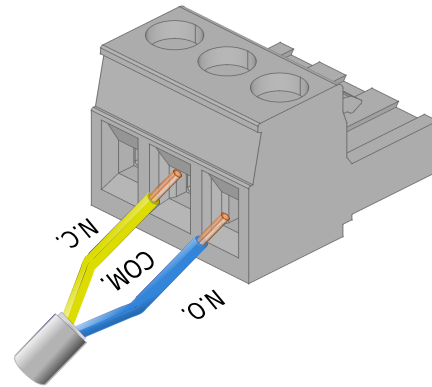

Fig 2: Connector Wiring
3. Insert the wires into the correct terminal on the included Phoenix plug (see Fig. 2)